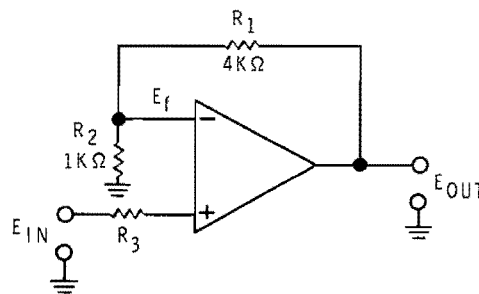

Figure 3-53
47. (200) Figure 3-53 shows a noninverting amplifier.  $E_{IN}$  is applied to the "+" input, while a feedback voltage ( $E_f$ ) is applied to the "-" input. The circuit automatically adjusts itself so that  $E_f$  is almost exactly equal to \_\_\_\_\_.